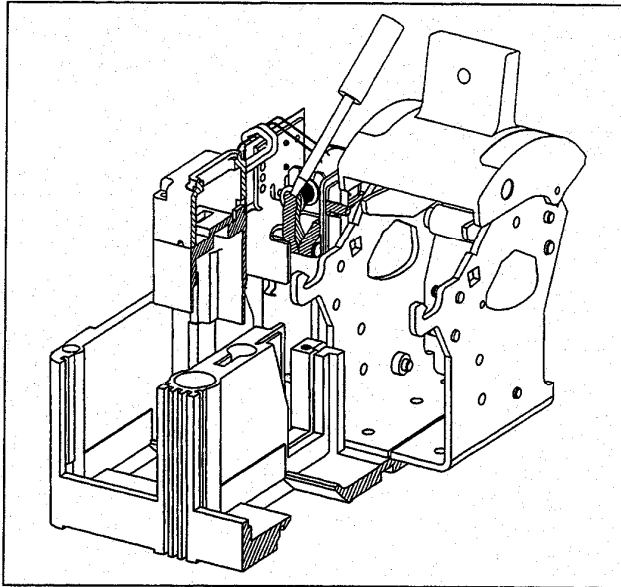

Fig. 2-5. Screwdriver Depressing Undervoltage Release's Solenoid Plunger
- Mechanical check. Using a small flat-blade screwdriver, (Fig 2-5), push in and hold solenoid plunger. Switch circuit breaker to ON. Release solenoid plunger and check that circuit breaker trips.
- Reset circuit breaker handle and check that handle arm moves reset lever (Fig. 2-5) to reset the solenoid plunger.